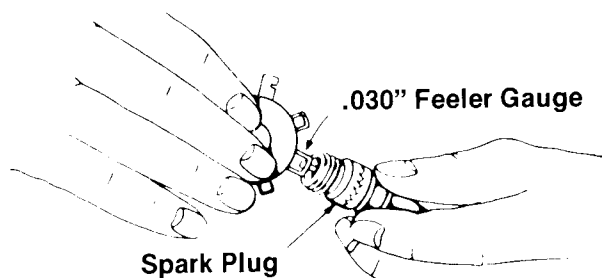

FIGURE 47.
1. Remove the spark each time you change the oil and inspect it. See figure 47.